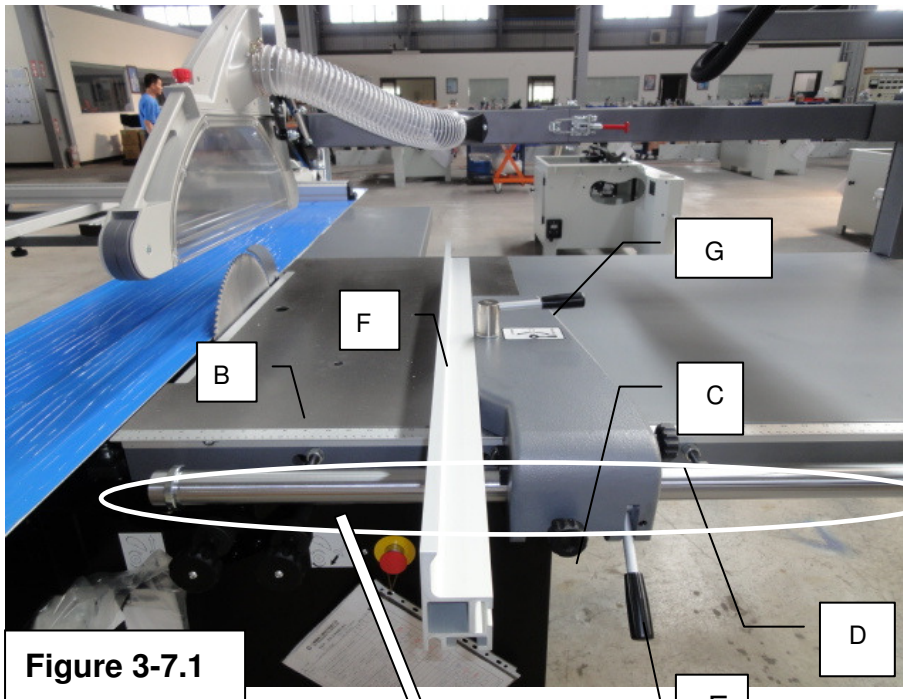
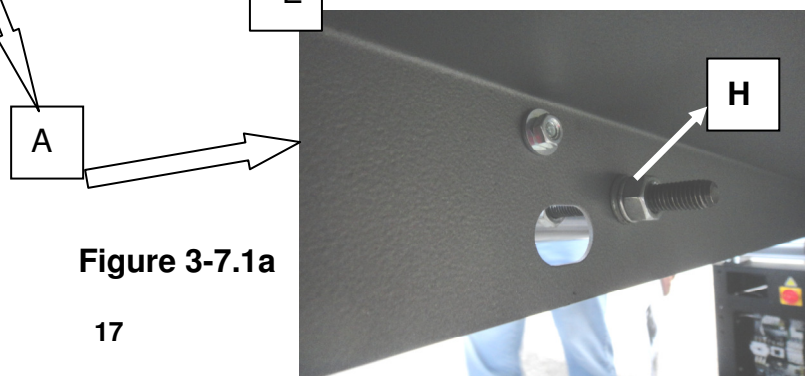

Figure 3-7.1
Figure 3-7.1a
1. Fasten the extension table and keep it aligned with cast iron table. Check the flatness by placing fence plate (F, Figure 3-7.1) on the tables as Fig 3-5.1. The extension table must be even height to cast iron table. However, if the extension table is **lower**, the distance must be less than 0.2mm for smooth operation.
1. Insert the screw rods **H** (Fig. 3-7.1a) of the round bar into the position **A** (Fig. 3-7.1) of working table and extension table then put the washers and nut at the back side of the table, then fasten them in (there are 4 points for fixing the round bar in this position).
3. Slide rip fence support **C**(Fig. 3-7.1)into round bar **D**(Fig. 3-7.1)
Note: Move handle **E** (Fig. 3-7.1) up to release rip fence, down to lock the rip fence.
4. Mounting fence plate **F** (Fig. 3-7.1) to clamping assembly in upward position and tighten handle **G**.